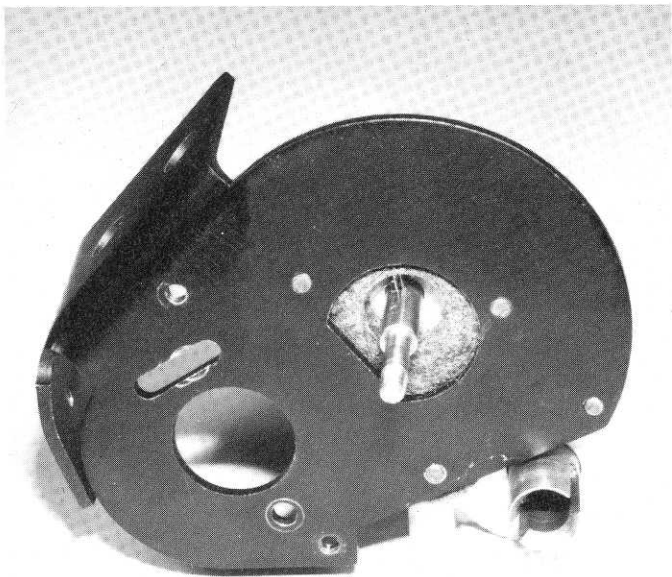

Fig. 60
□ **Figs. 60, 61 & 62** Now we'll assemble the clutch Torque Control assembly. Slip the #6583 clutch hub onto the shaft, making sure the slots align with the pin.